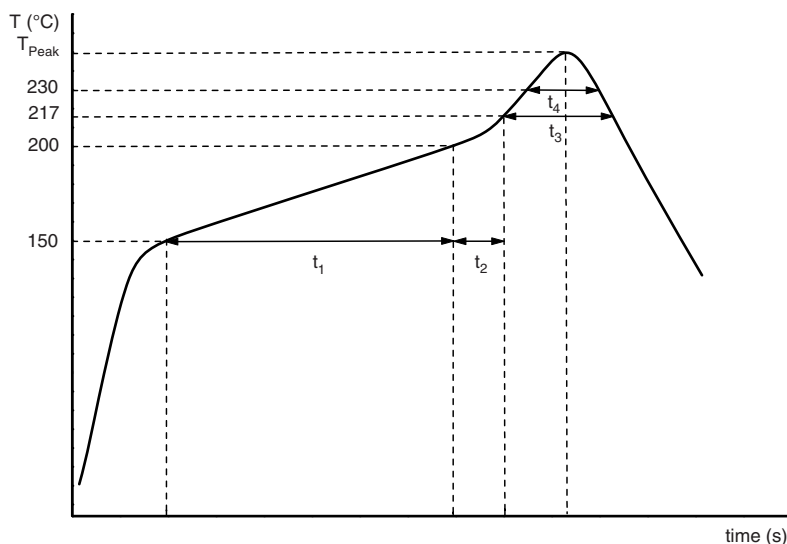

Fig.4 Maximum temperature load during reflow soldering
For maximum conditions refer to Fig.4 or Fig. 5.
(1) Standard reflow soldering profile, see Fig.4 and Table 4